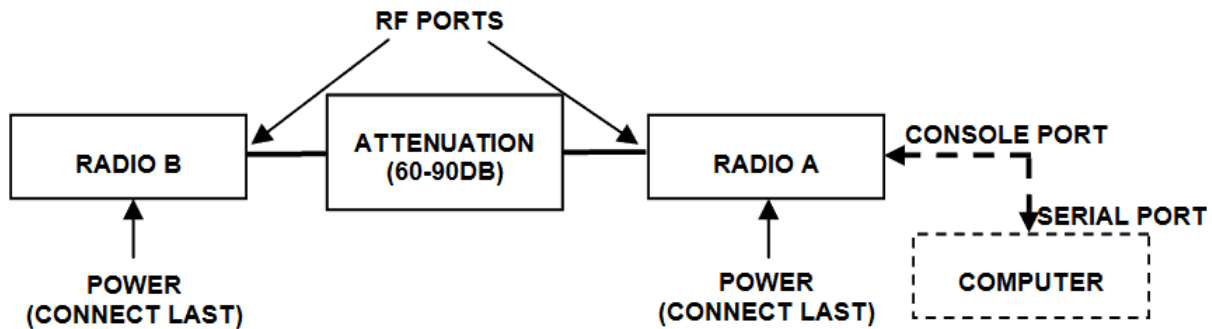

Figure 53 Basic back-to-back bench test configuration
- 1 Connect attenuation and (known-good) RF cable(s) between radio pair, shown in Figure 53.
Connect the system as shown in Figure 53, using the combination of fixed and variable attenuation between the radio's RF ports. Connect the volt meter to either radio's RSL test point and associated reference ground connection.